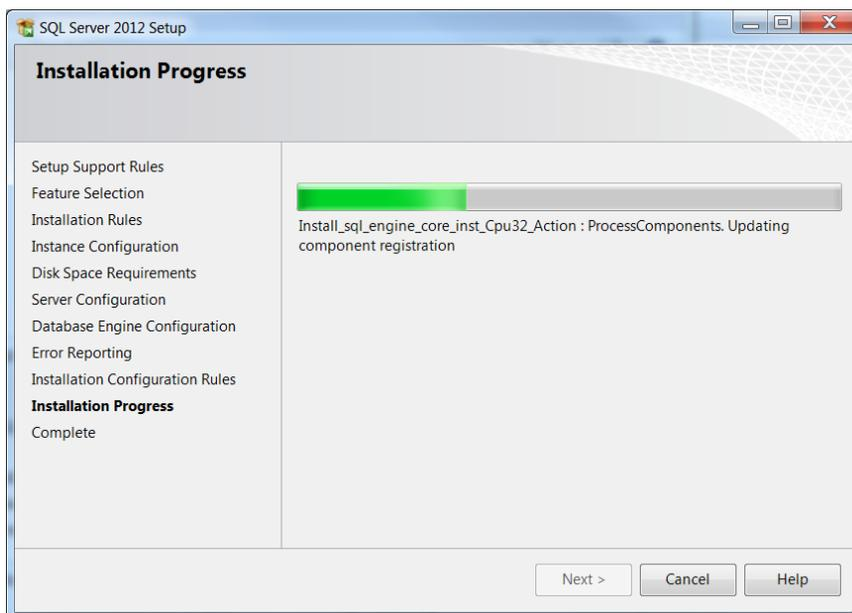

Figure 19: SQL Server 2012 Setup Installation Progress
14) Observe the progress of the installation (Figure 19).